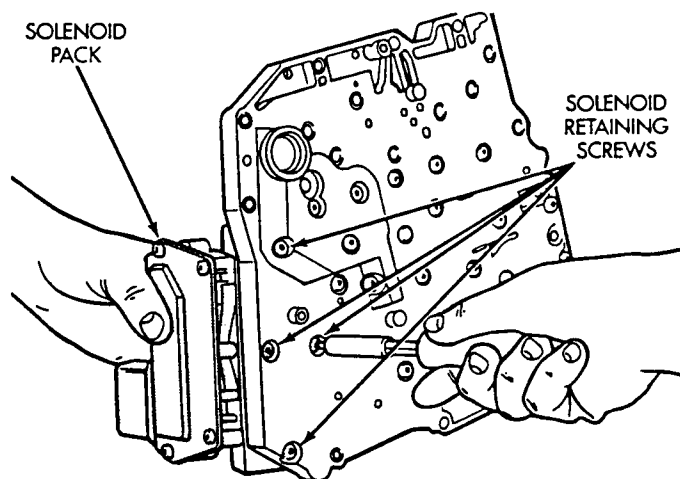

Fig. 2 Solenoid Retaining Screws
- (1) Raise vehicle on hoist.
- (2) Remove valve body assembly from transaxle. Refer to Valve Body in this section for removal procedure.
- (3) Remove solenoid retaining screws from solenoid (Fig. 2).